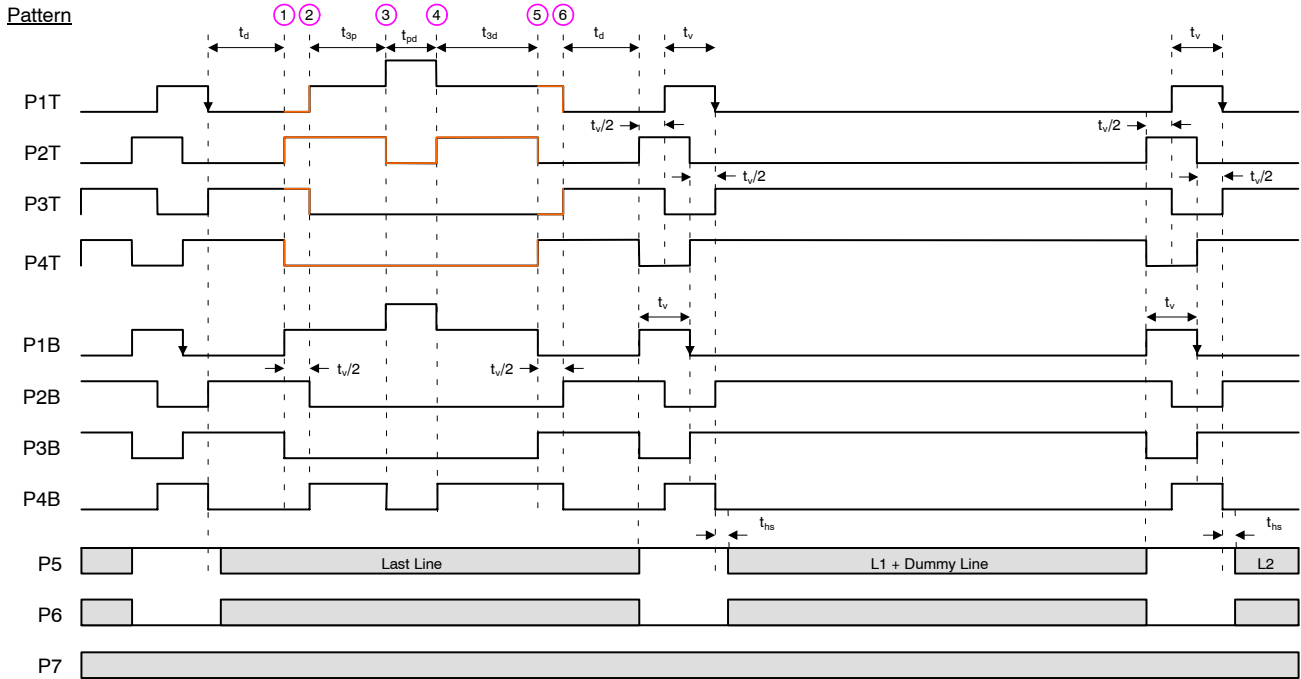
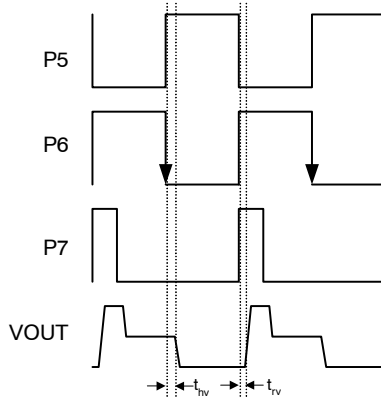
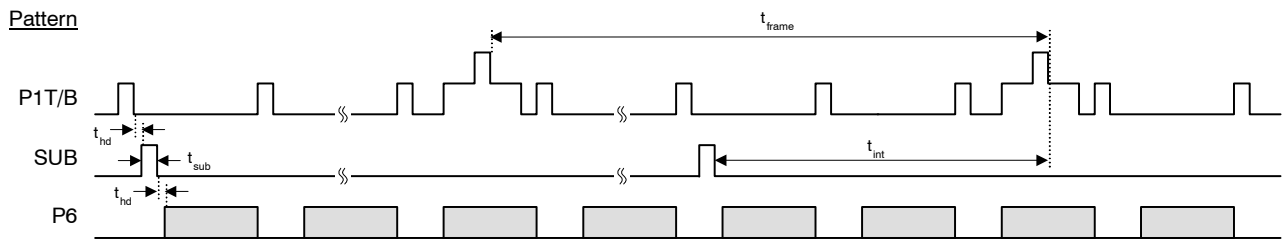
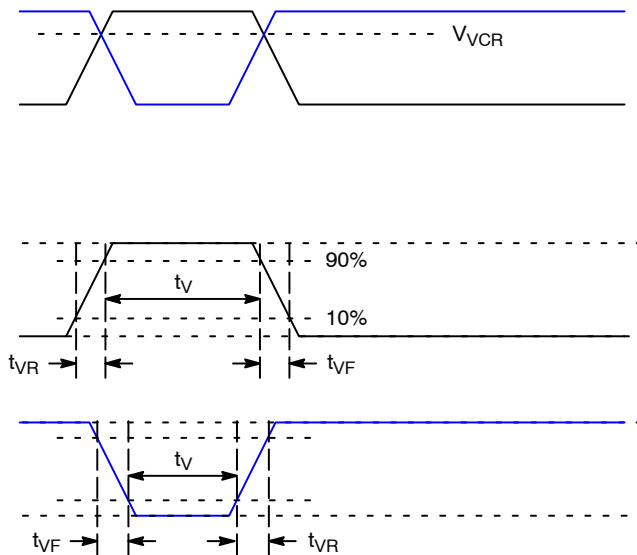

Figure 19. Photodiode Transfer Timing
Figure 21. Pixel Timing Detail
Figure 22. Frame/Electronic Shutter Timing
Figure 23. VCCD Clock Edge Alignment
1. Refer to timing diagrams as shown in Figure 19, Figure 20, Figure 21, Figure 22 and Figure 23.
2. Refer to Figure 23: VCCD Clock Edge Alignment.
The timing sequence for the clocked device pins may be represented as one of seven patterns (P1–P7) as shown in the table below. The patterns are defined in Figure 19 and